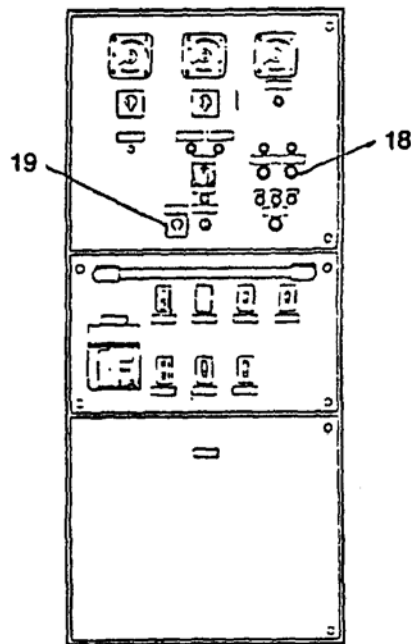

Figure 2-156. Main Switchboard and Emergency Switchboard.
- (1) Main switchboard (EOS) (Figure 2-156).
- (a) Set AMMETER switch (4) to position 1.
- (b) Increase GENERATOR 1 GOVERNOR speed control (6) until HERTZ meter (5) reads 60.
- (c) Turn BUS GEN. 1 VOLT OFF switch (2) to read phase phase 1-2.
- (d) Adjust GENERATOR 1 AUTO. VOLT. RHEO. (1) to read 450 on A-C VOLTS meter (3).
(2) Emergency Switchboard (02 Level).
- (a) Turn engine control switch (19) to the MANUAL position.
- (b) Push main switchboard bustie circuit breaker (18) to the CLOSED position.
(3) Main switchboard (EOS)
(1) Main switchboard (Figure 2-156). Set AUX. MCHRY. SPACE #1 PWR. PNL. #4 circuit breaker (11 to ON position).